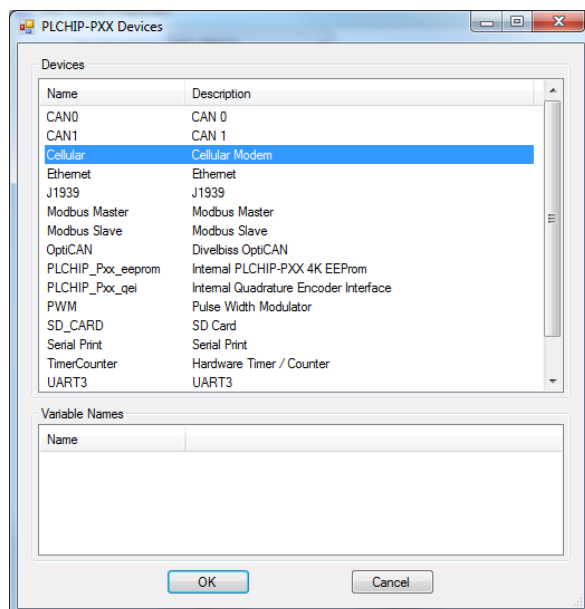

Figure 2-55 - PLCHIP-PXX Devices - Cellular
- Click **OK**. The **VersaCloud Properties** Window will open. Refer to Figure 2-55. This window is used to select the interface (communications method) between the HEC-P5XXX and the VersaCloud M2M Portal (Cloud server). The **Available Interfaces Pane** and the **Selected Interfaces Pane** are used for the selection.